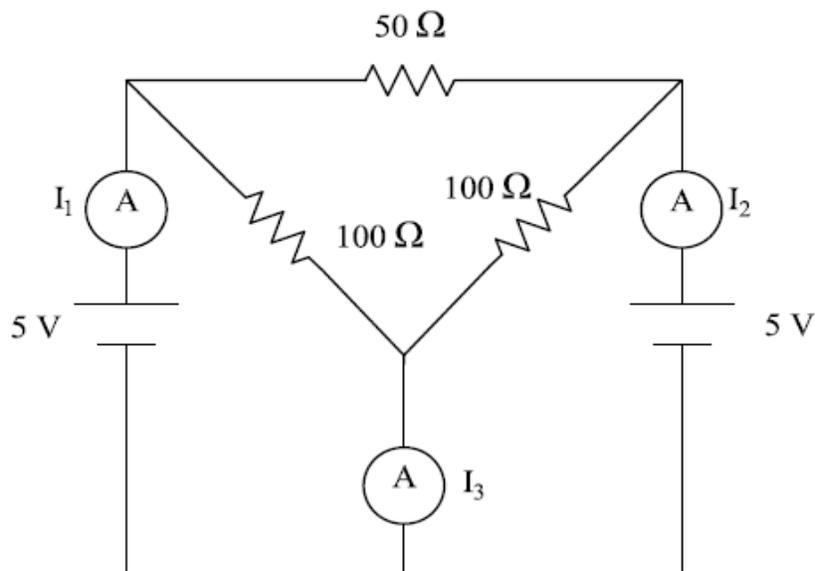

Fig 2 : experimental circuit of part 1
1. connect the circuit of fig. 2.